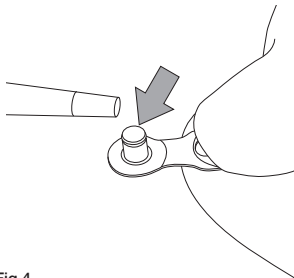

Fig.4
- Lubricate the pins of the C-Link™ using a specific chain lubricant (Fig. 4).